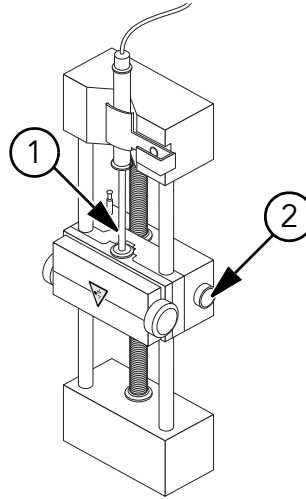

Figure 2-1 Lowering the syringe
1. Press the Release button on the right side of the syringe pump to lower the base and then insert the syringe as shown in Figure 2-1.